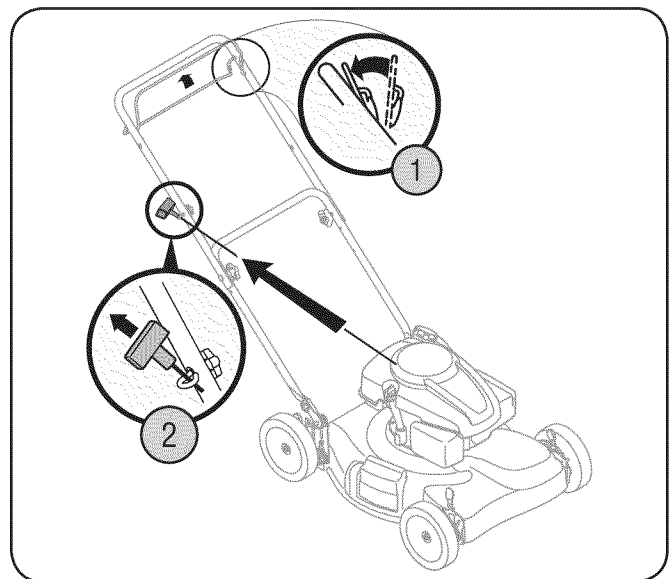

Figure 5-2
2. Pull the recoil starter lightly until resistance is felt, then pull rapidly to overcome compression, prevent kickback, and start the engine. Repeat if necessary. See Fig. 5-2.